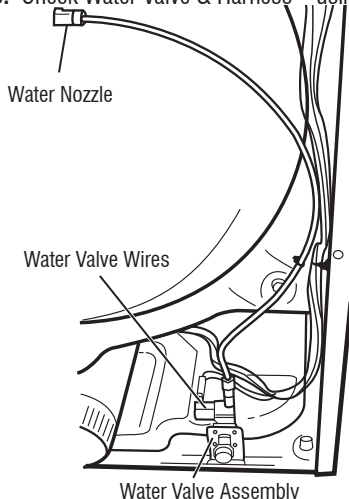

Figure 13 - Water System Components
Activate the Service Test Mode (see page 5) and perform steps up to the Service Test step 8. See pages 6 and 7. Verify that water is being sprayed into the drum. See figure 13.
- Check that the hose and wires are connected to the water valve assembly (see figure 13).